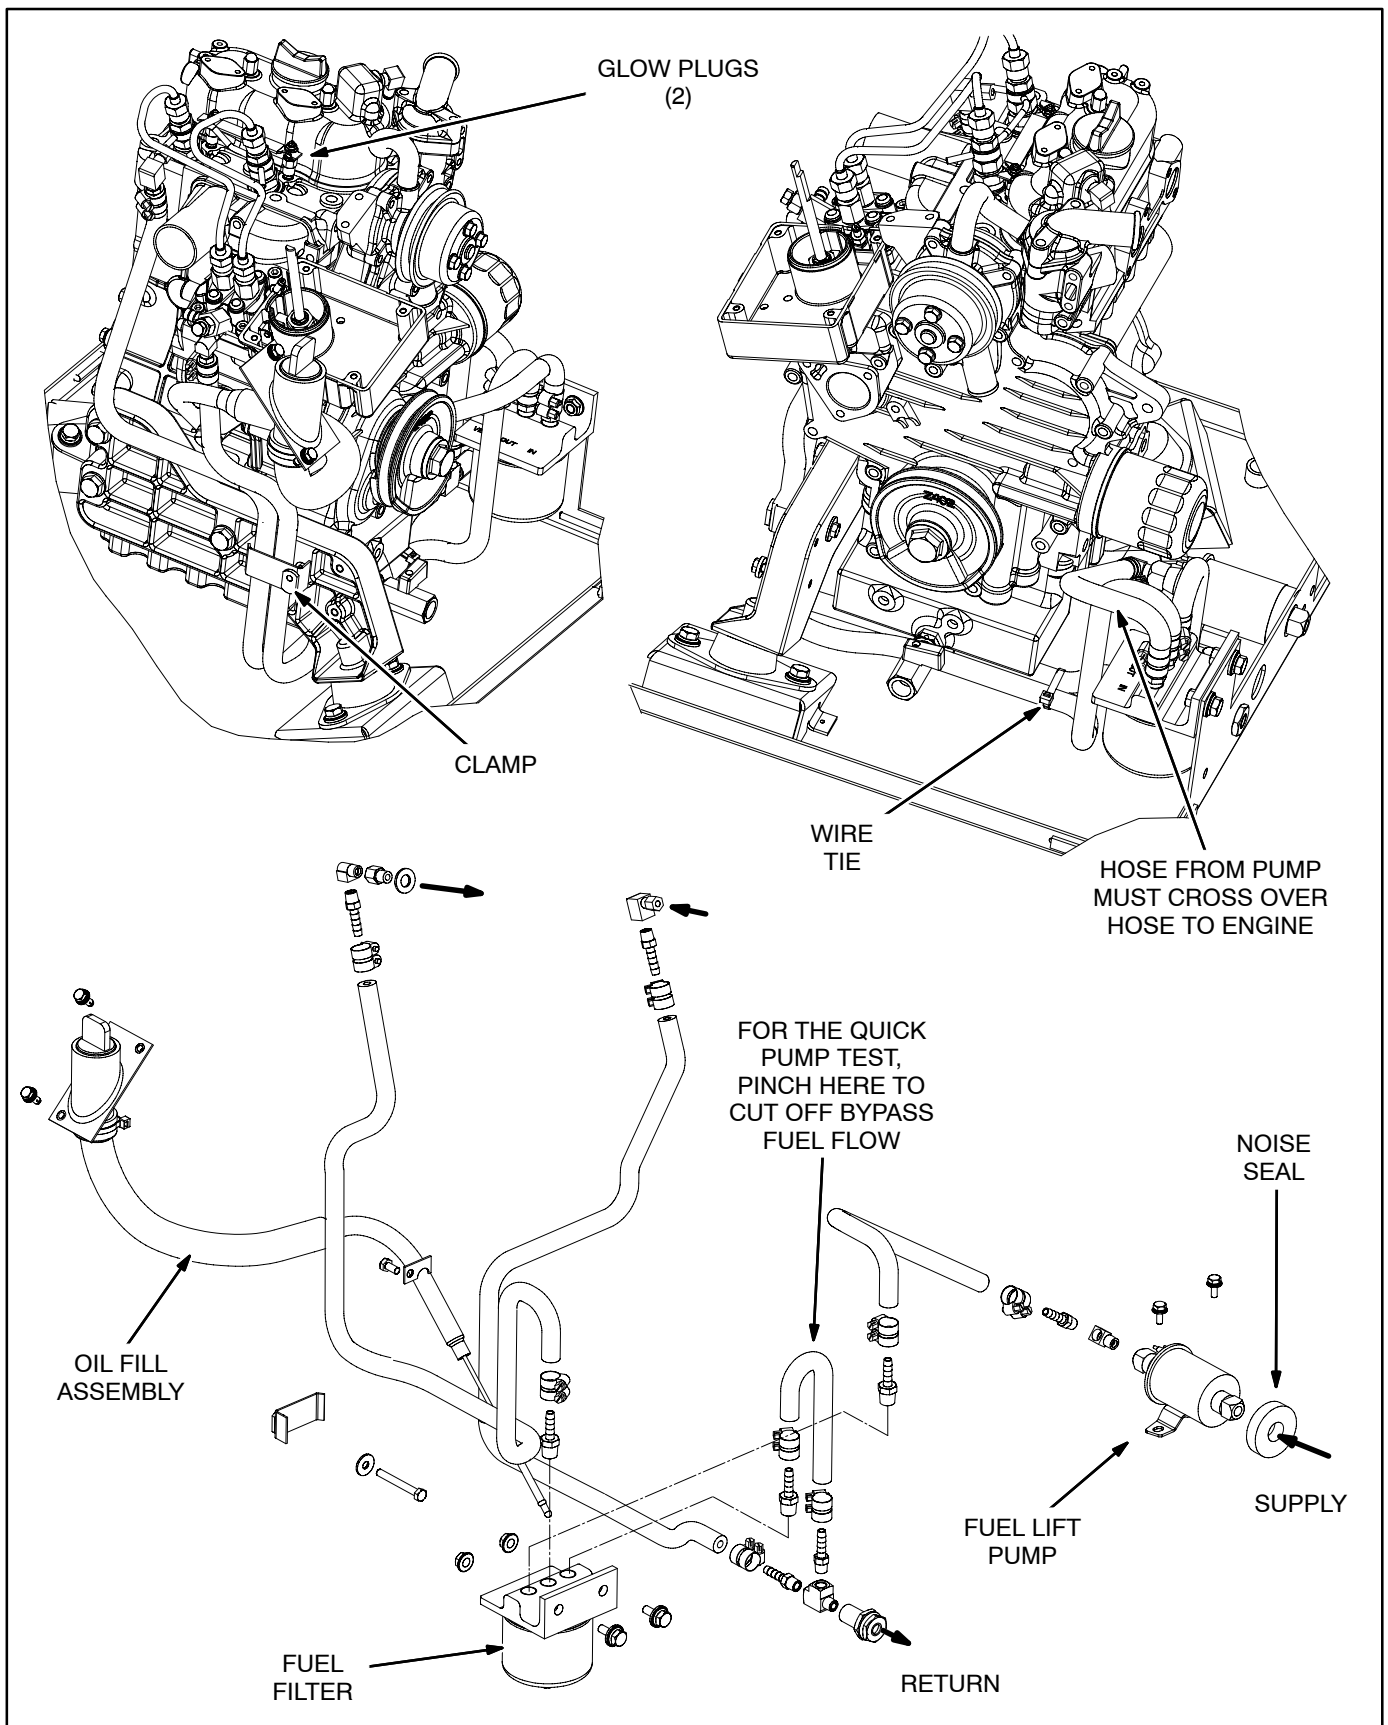
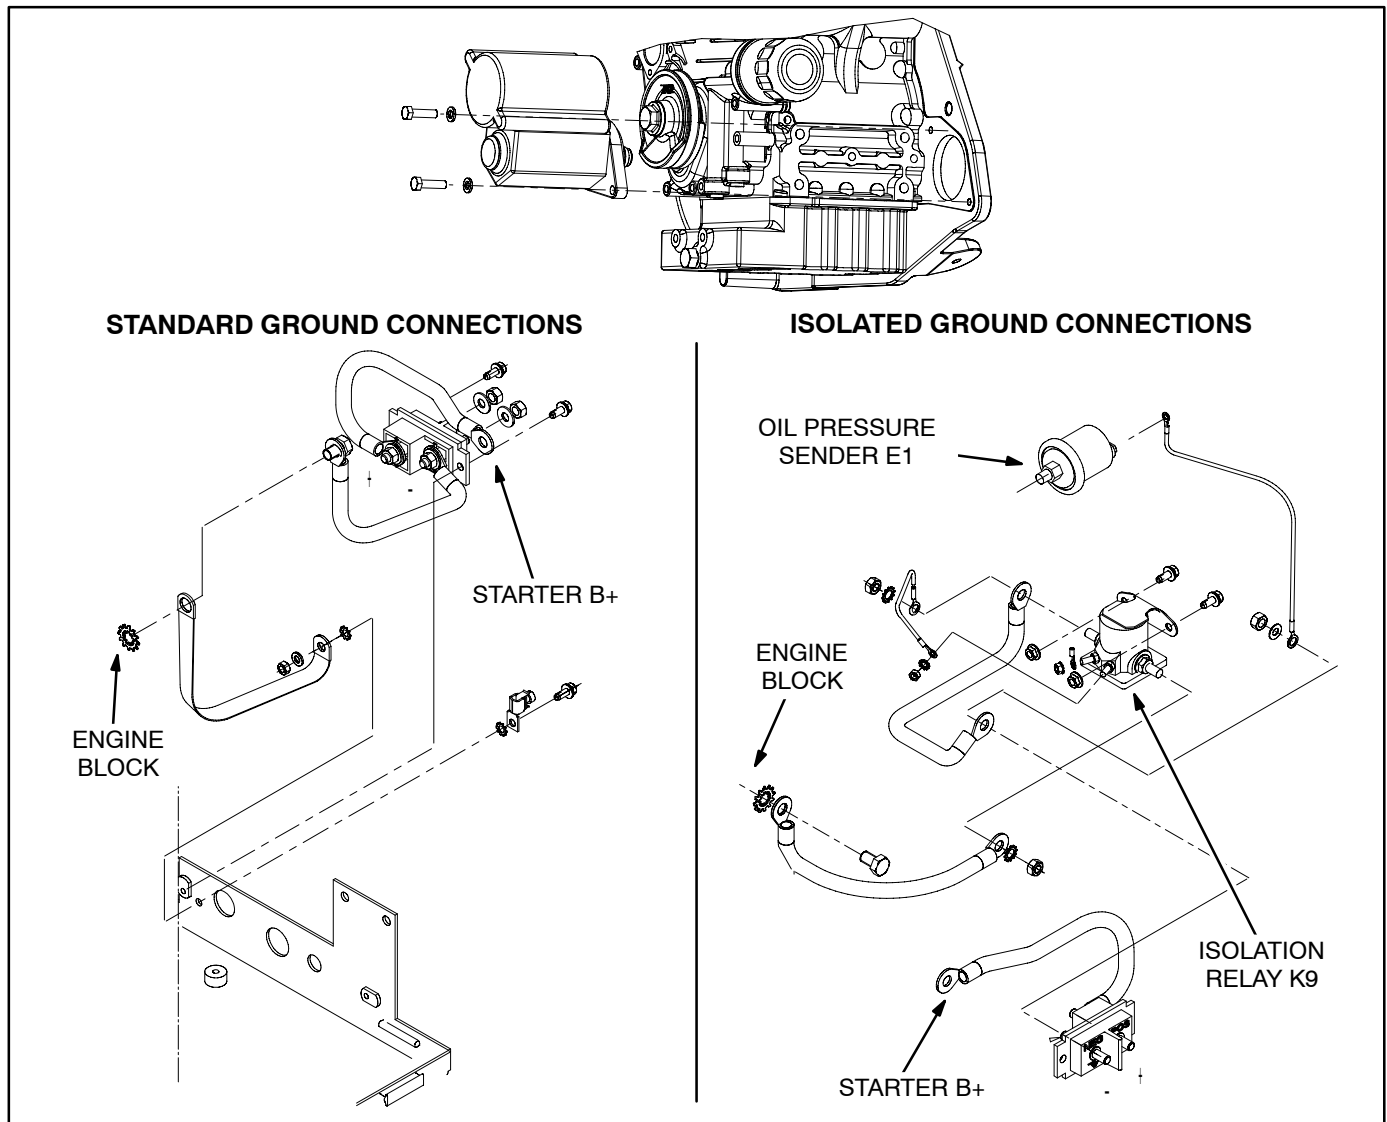

FIGURE 6-5. FUEL SYSTEM AND GLOW PLUGS
FIGURE 6-9. STARTER MOTOR MOUNTING AND CONNECTIONS
- The fuel lines are connected at the fuel injector (Figure 6-5).
Figure 6-5 illustrates how the fuel system is assembled for delivering fuel to and from the fuel injection system.
A quick test to determine if the fuel pump is weak is to pinch the fuel bypass hose (Figure 6-5) with rubber tipped visegrips. If an engine that fails to start starts and runs with bypass flow cut off, fuel delivery to the engine is weak. Service all of the fuel filters in the system and repair any restrictions to fuel flow. If fuel delivery is still weak, replace the fuel lift pump.
Refer to engine Workshop Manual 981-0533 when replacing the glow plugs (Figure 6-5).
The starter motor (Figure 6-9) is accessible for removal and installation by removing the right side enclosure panel (Page 5-1). Alternatively, it can be removed and installed through the front access opening if the raw water pump is removed (Page 4-10) and the fuel filter bracket is unbolted from the drip pan and moved out of the way (Figure 6-5). Parts
Before installing the starter motor, make sure that the engine block is grounded properly, depending on whether standard or isolated ground connections are required (Figure 6-9). The star washer must be installed between the engine block and cables. Torque the bolt to 41 lb-ft (55 N-m).